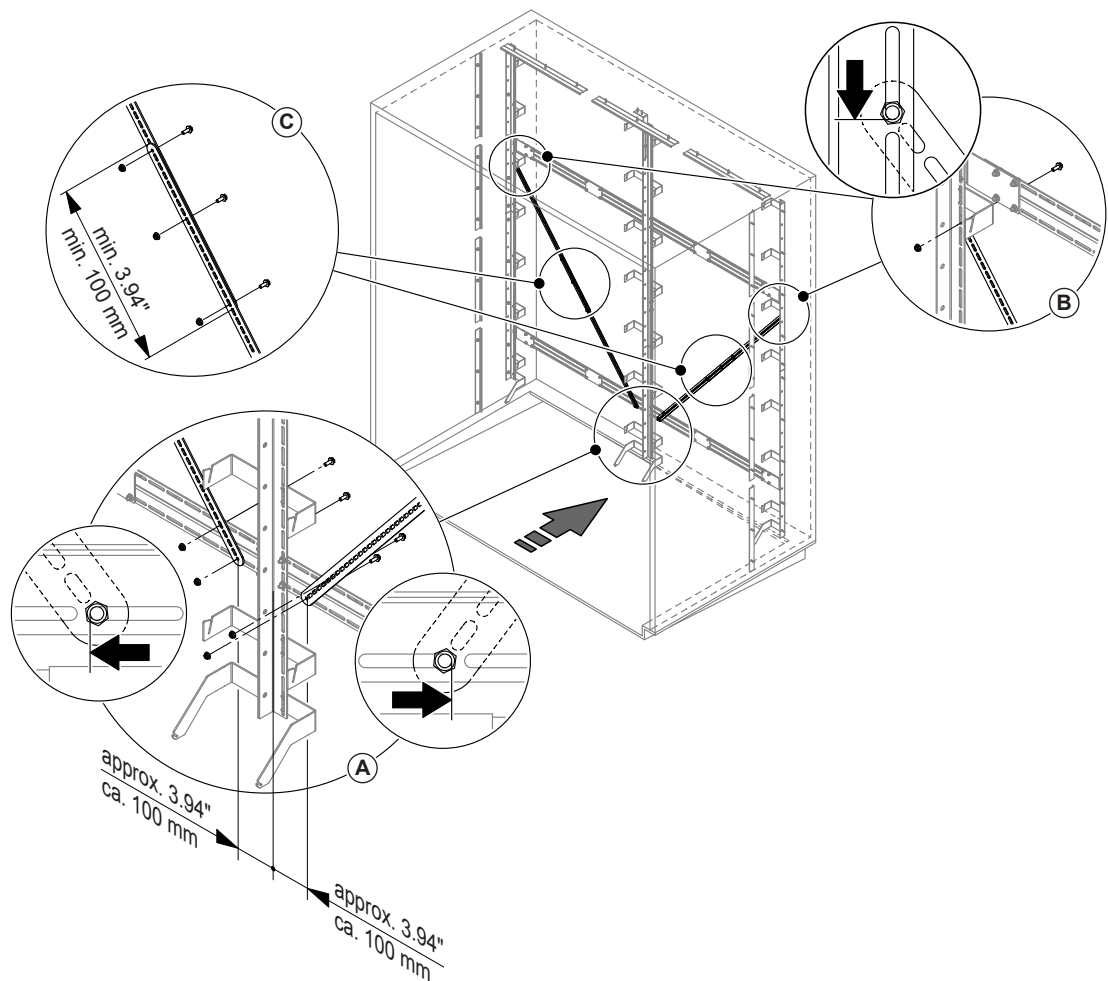

Fig. 14: Mounting the diagonal stiffeners
- First fix the lower stiffener sections from the front (view in air flow direction) with a screw M6 x 16 mm and nut supplied with a distance of approx. 100 mm to the middle of the vertical support(s) to the cross member(s) - use appropriate oblong hole in the lower row of the cross member(s) (see detail A in Fig. 14). Then, push the stiffener sections in the oblong hole of the cross member against the duct walls until it comes to a stop and slightly fasten the screw connections.
- Fix the upper stiffener sections from the back (view in air flow direction) with a screw M6 x 16 mm and a nut supplied in such a way to the lateral support or the middle vertical support (only applicable for air ducts/AHU's with a width 177.17" (>4500 mm)) that the overlap of the upper and lower stiffener sections is at least 3.94" (100 mm) (see detail B and C in Fig. 14). Then, push the stiffener sections in the oblong holes downwards until it comes to a stop and slightly fasten the screw connections.
- Overlap the upper and lower stiffener sections and fix overlap with three screws M6 x 16 mm and nuts supplied (see detail C in Fig. 14).
- Finally, fix the lower stiffener sections with a second screw M6 x 16 mm and nut supplied in the upper row of oblong holes to the cross member(s) (see detail A in Fig. 14). Then, fasten all screw connections on the diagonal stiffeners.